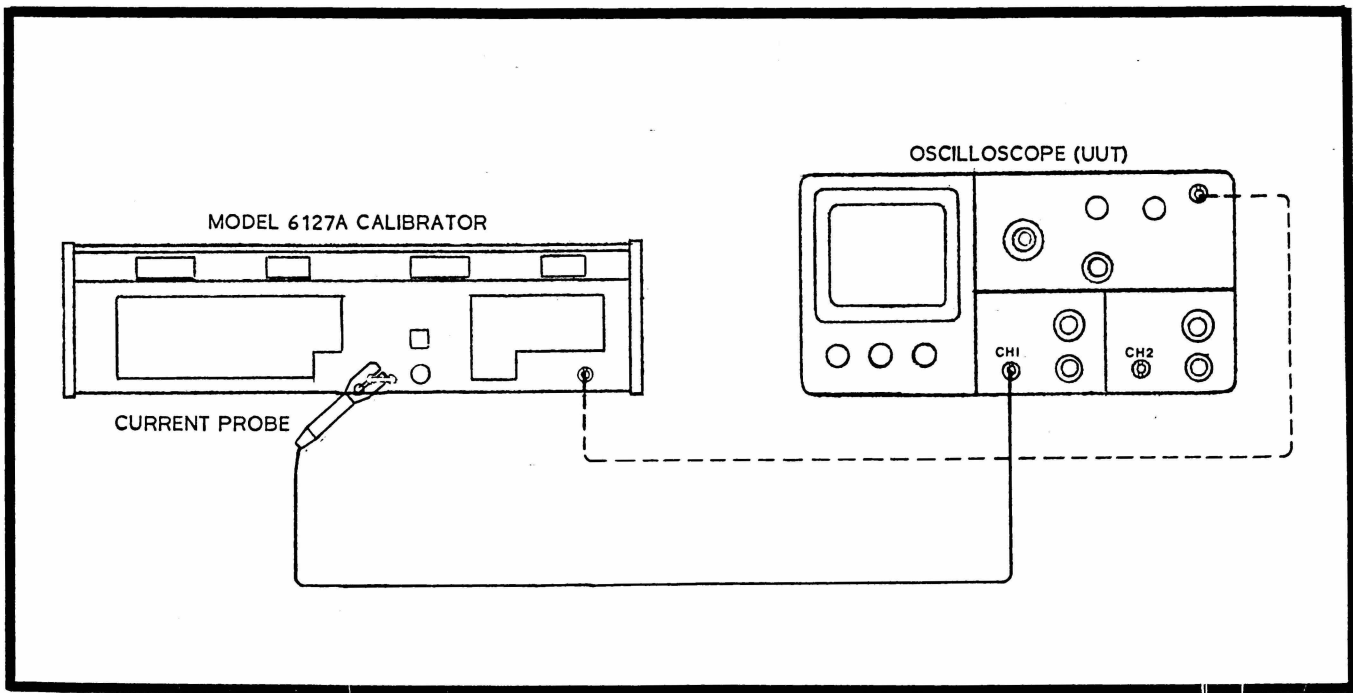

Figure 3-6. Milliamperes/Div Mode, Equipment Set-Up
a. Connect the equipment as shown in Figure 3-6. (Refer also to Table 3-6.)